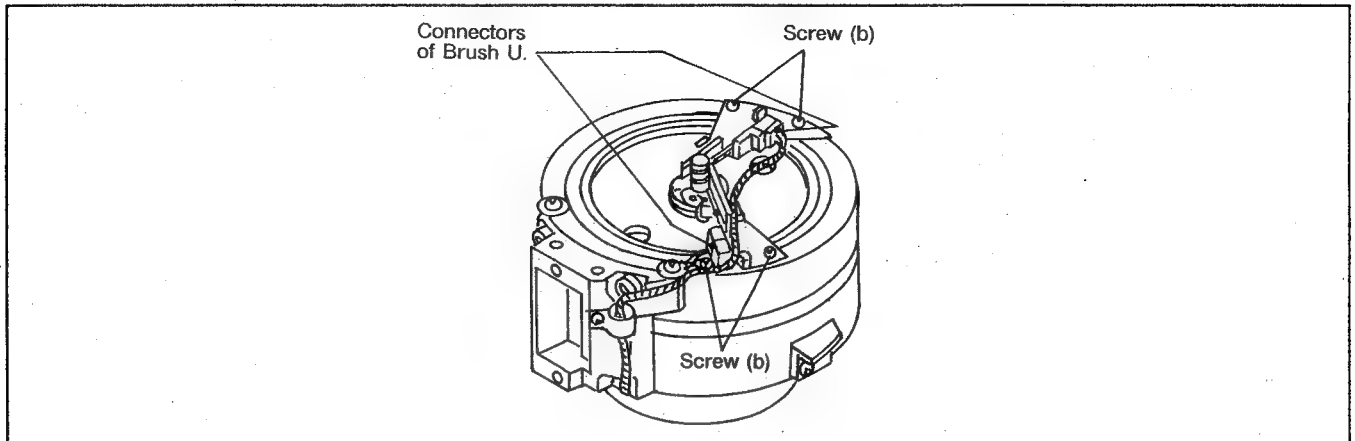

Fig. 7-3-1
- 1) Remove two connectors from Brush Unit as shown in figure 7-3-1.